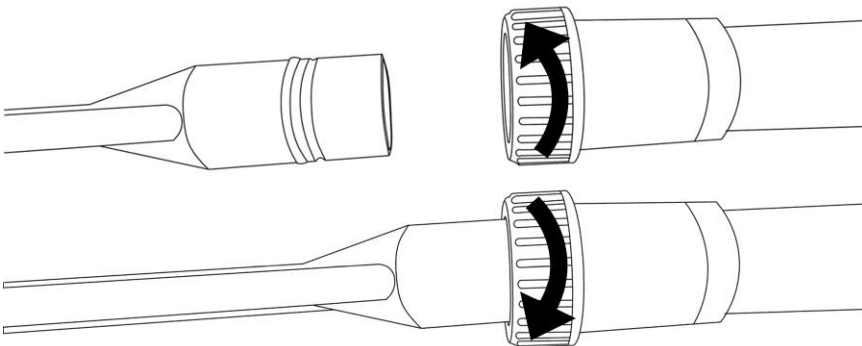

Fig.10
- Secure the utensil to the end of wand. Align the brass ring with the groove on the tool to ensure a secure fit (Fig. 10)